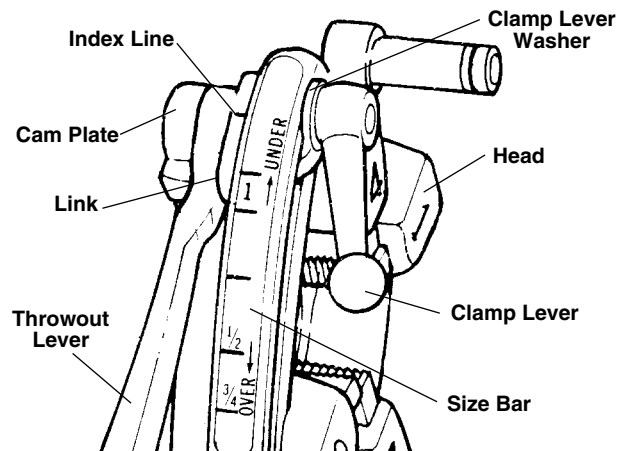

Figure 8 – No. 610 Quick-Opening Die Head
The 610 quick-opening die head (Figure 8) uses one set of dies for 1/2" and 3/4" threads and another set for 1" threads. Dies are available for NPT and BSPT thread forms.
- If the thread is too large (ring gauge will not thread on far enough) adjust the die head size bar slightly toward the UNDER marking (See Figure 8). If the thread is too small (ring gauge threads too far onto the thread) adjust the die head size bar slightly toward the OVER marking (See Figure 8).